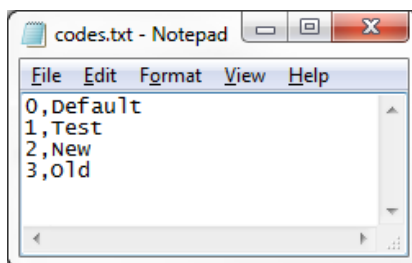

Figure 93 - Point Code File
2. Type the name of the file to hold the exported codes library. Output file format will be as shown in Figure 93 above.